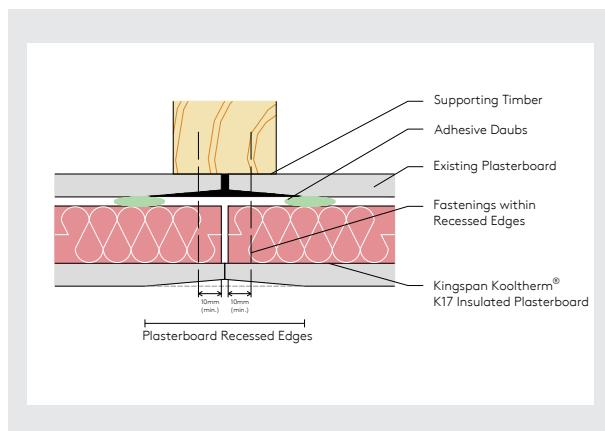

Figure 10
- Construction adhesives can compress down causing the board to sit flush with the existing wall (Figure 10). It is important to note that the new wall lining will follow the contour of the existing wall, therefore ensure the deviation (existing wall alignment tolerance) from the highest point to the lowest point does not exceed a 5 mm gap in any direction (vertical or horizontal) when measured with a 2 m straight edge. This attachment method must only be used where the background alignment is satisfactory.